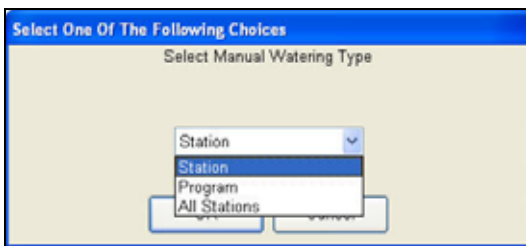

Figure 7.4.2
4. Select a watering type. Click **OK** (Figure 7.4.2).